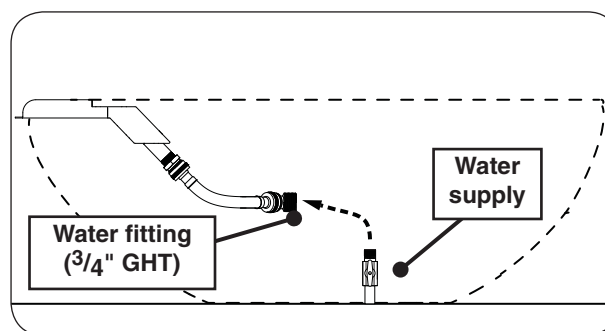

Fig. 25-2 Connect water supply (if applicable)
2. Plumb the water supply to the  $\frac{3}{4}$ " GHT fitting (see Fig. 25-2).